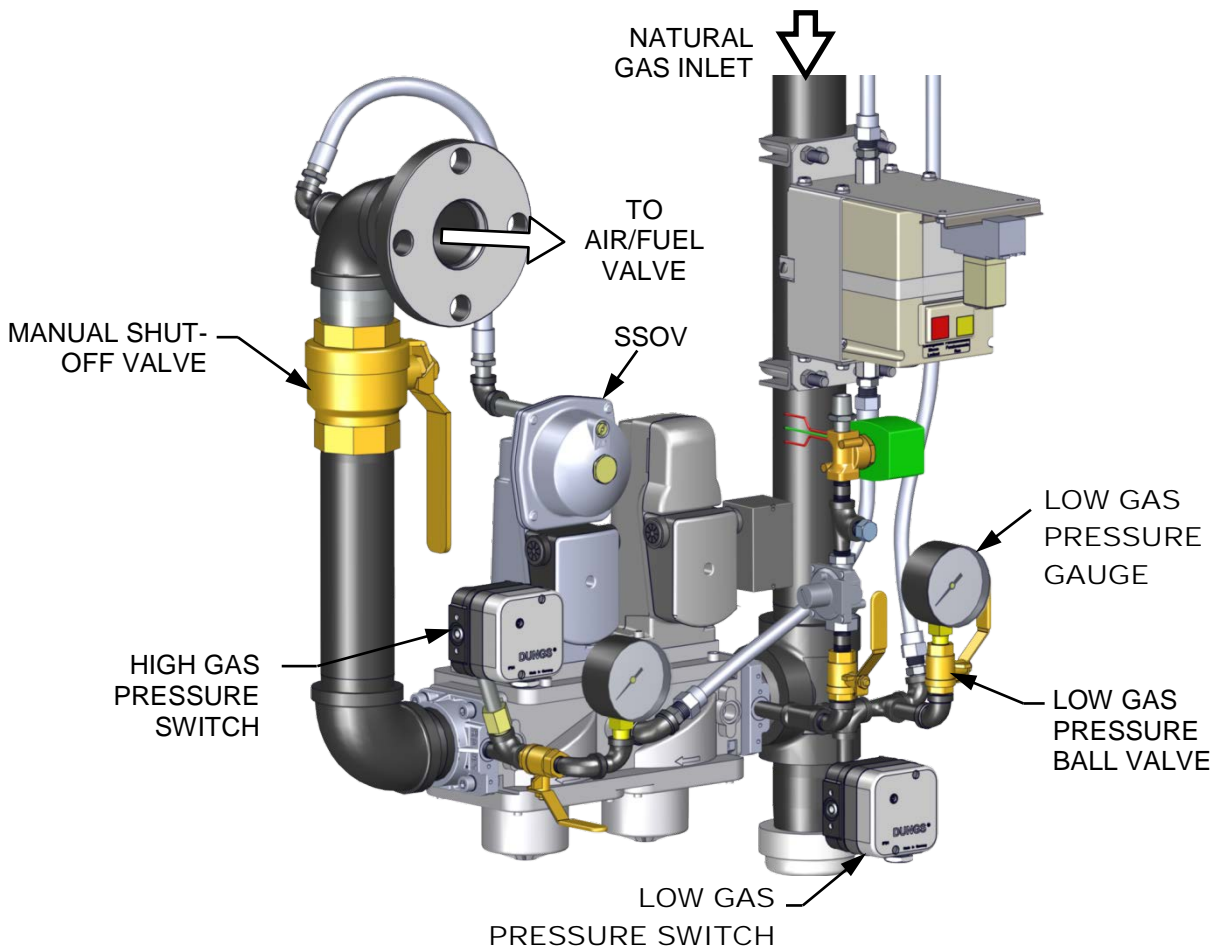

Figure 5-2: BMK 3000: LOW Gas Pressure Test Components
To simulate a low gas pressure fault on BMK 3000 units, refer to Figure 5-2, below, and perform the following steps:
6. While the unit is firing, read the CO value on the combustion analyzer and slowly decrease the incoming gas supply pressure by *slowly* closing the the external manual gas shut-off valve (not shown in Figure 5-2 below) until the CO reading is **approximately 300 ppm**.
7. Read the inlet pressure on the **Low Gas Pressure** gauge (see Figure 5-2, below). If the inlet pressure is below the minimum calculated in step 2, then increase the pressure to match the calculated minimum.